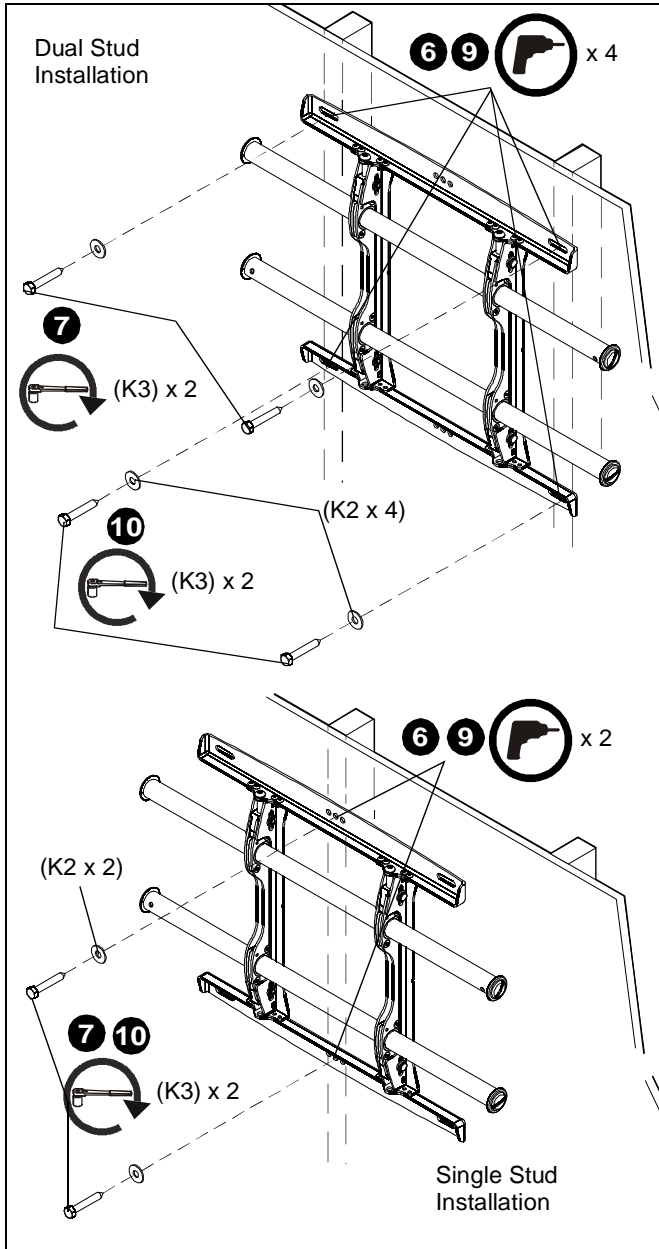

Figure 3
7. Use two 5/16 x 2-1/2" lag bolts (K3) and two 5/16" flat washers (K2) [one lag bolt and washer for single stud installation] to attach top of mount to wall. (See Figure 3)
8. Mark the attachment points for the lower mounting slots, making sure the attachment points are located on the studs. (See Figure 3)
9. Drill 7/32" pilot holes at markings for lower mounting holes. (See Figure 3)
10. Use two 5/16 x 2-1/2" lag bolts (K3) and two 5/16" flat washers (K2) [one lag bolt and washer for single stud installation] to attach the mount to the wall through the lower mounting holes. (See Figure 3)